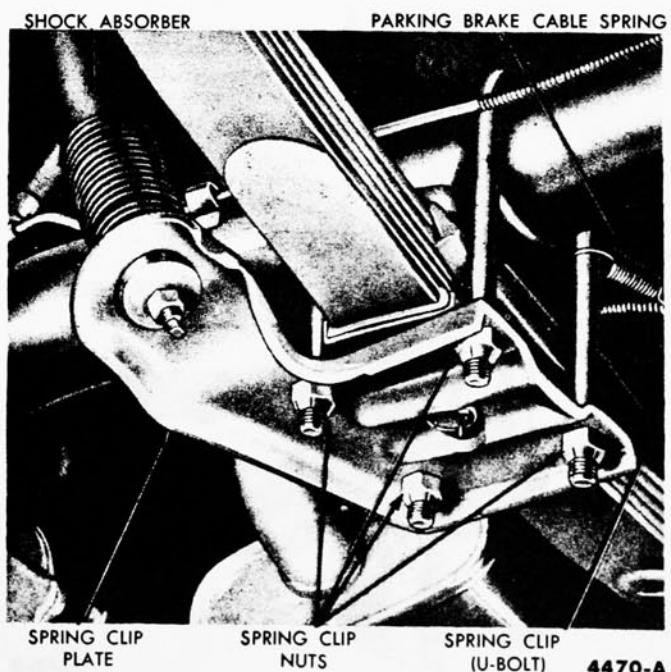

FIG. 14—Rear Spring Installation at Axle
2. Disconnect the parking brake cable spring (Fig. 14) from the outer spring clip.
1. Disconnect the shock absorber from the spring clip plate and the bracket on the underbody (Fig. 14).
1. Place the bushings and washers on the shock absorber studs in the order shown in Fig. 14.